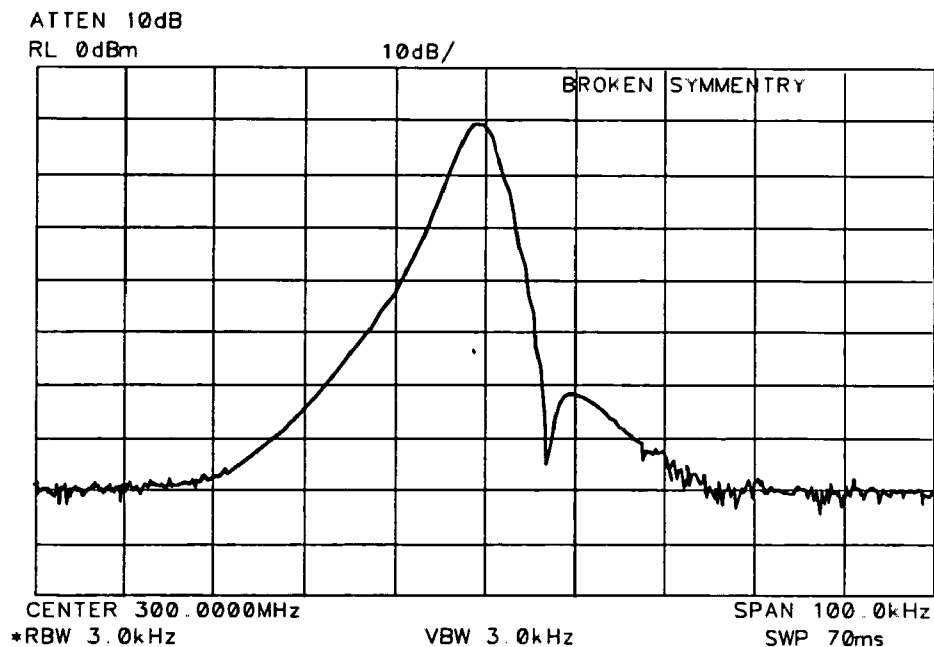

Figure 9-15. Faulty Crystal Symmetry
3. A trace similar to Figure 9-15 indicates a failed crystal symmetry circuit.